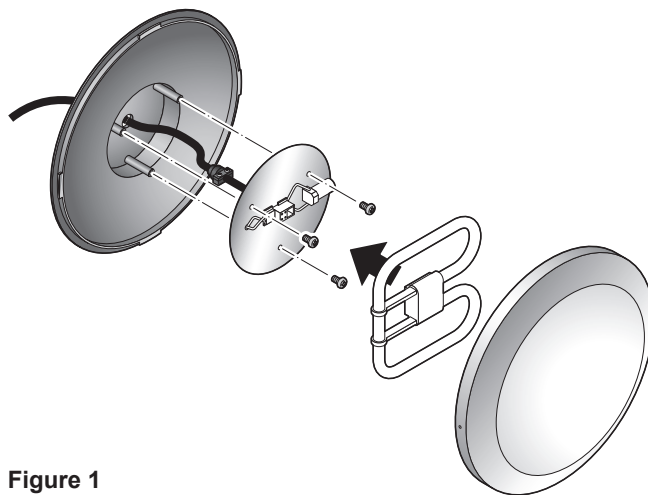

Figure 1
2. Feed connecting cable through opening in housing (Figure 1).